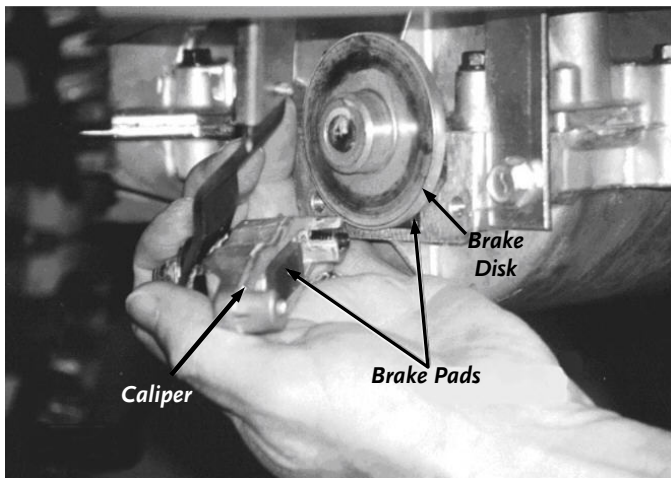

Figure 22
NOTE: The Caliper contains four (4) small parts: the Brake Pad, the Backing Plate, and two (2) small Actuator Pins (**Figures 22 and 23**). As you let the Caliper hang from its attaching hardware, keep track of these parts as they could fall out. Clean away any debris from these parts and the inside of the Caliper.
3. Pull the Brake Disc off the keyed Shaft (**Figure 22**) being careful not to lose the Shaft Key.